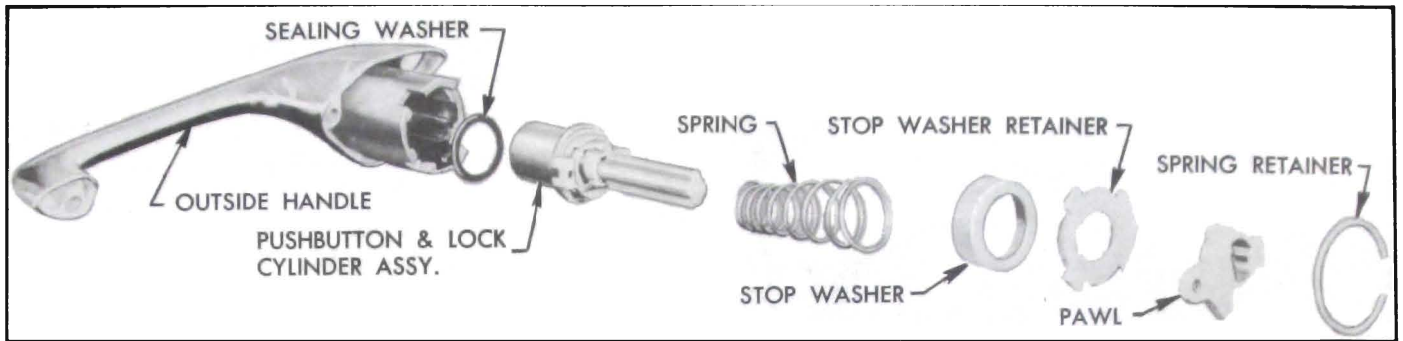
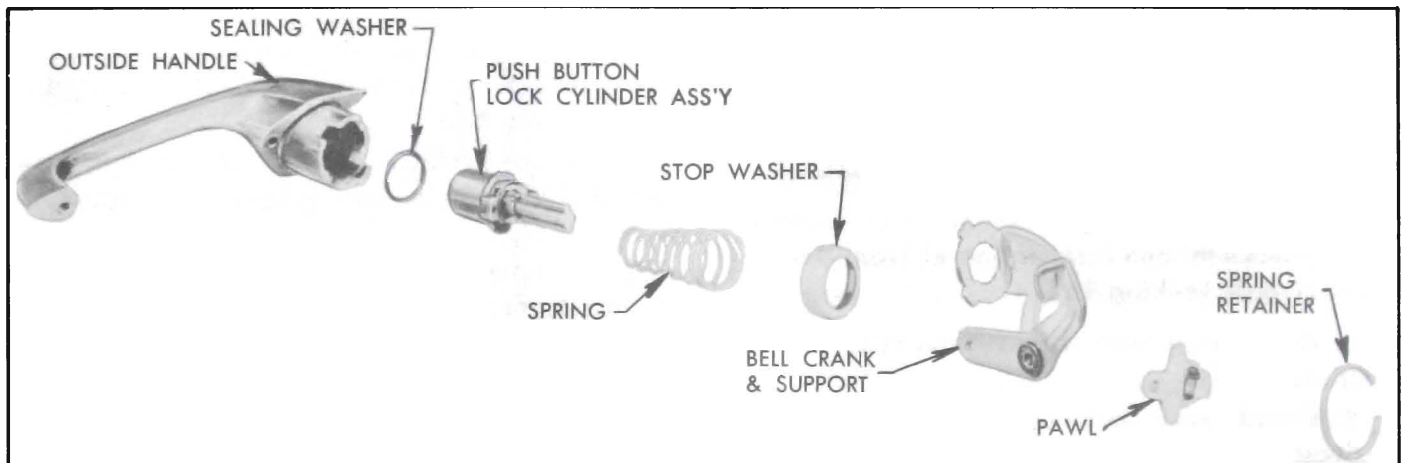

Figure 13-206—Disassembly of Front Door Outside Handle—Two-Door Models
Figure 13-207—Disassembly of Front Door Outside Handle—Four-Door Models
2. While maintaining pressure to hold component parts within handle, use a suitable tool and remove spring retainer, then remove parts as shown in figure 13-206 for two-doors, or figure 13-207 for four-doors.